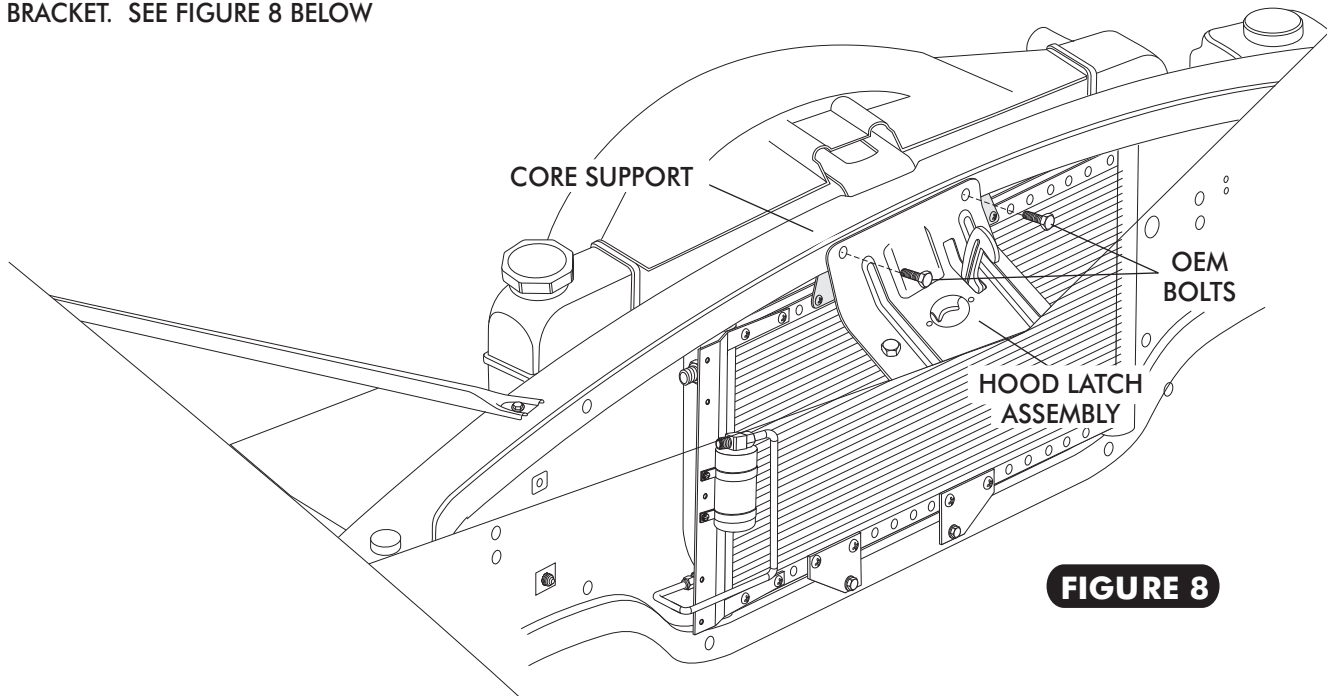

FIGURE 8
- USING OEM BOLTS RE-INSTALL HOOD LATCH ASSEMBLY, INSTALL OEM BOLTS THROUGH THE HOOD LATCH ASSEMBLY THROUGH THE CORE SUPPORT AND THREAD BOLTS INTO U-NUTS ON THE TOP CONDENSER BRACKET. SEE FIGURE 8 BELOW